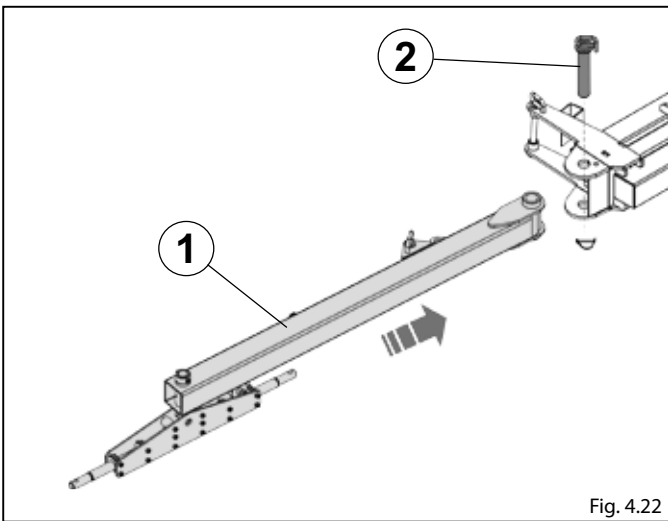

Fig. 4.22
- Mount the towbar **1** on the frame inserting pin **2** (Fig.4.22)